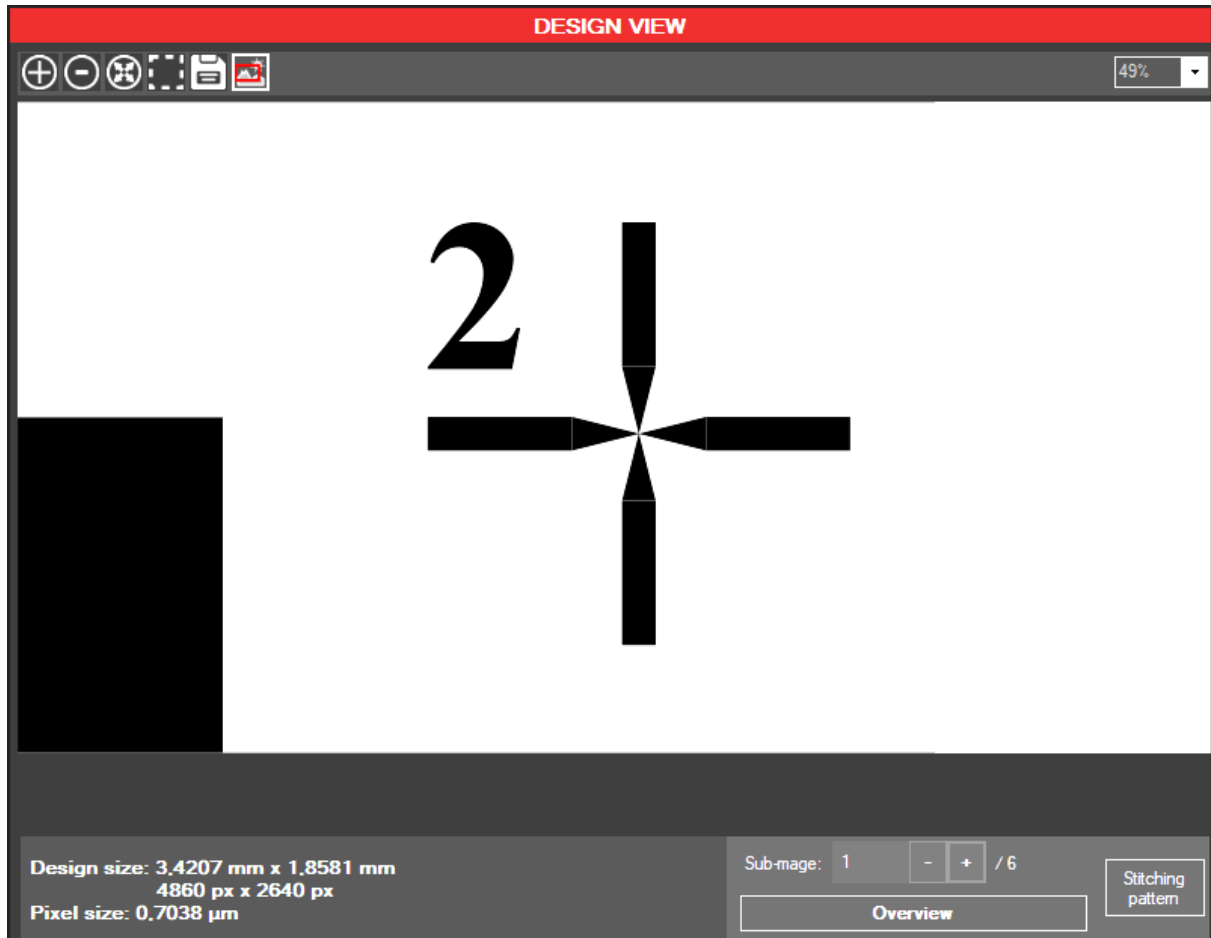

Figure 62 - Semi-auto alignment: defining optional point P2
- Selection of point P2 (Figure 58d): selecting a second point of interest will help to improve the substrate rotation adjustment and then the overall quality of the alignment. To do so, click on the **(Overlay pos. P2)** button. Select a point on the **IMAGE VIEWER** panel ideally situated at the opposite of the previously selected P1 as shown in Figure 62.